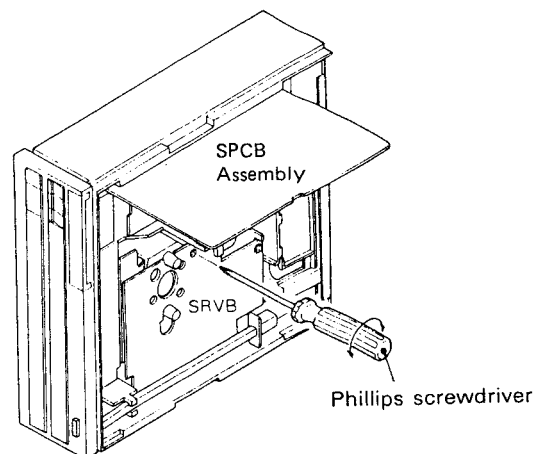

Fig. 10-2-11 Tilt adjustment of tilt sensor Assembly
- ① Search out frame #104.
- ② Insert a Phillips screwdriver into the tilt adjustment hole of the SRVB Assembly as in Fig. 10-2-11.
- ③ Adjust the tilt adjustment screw of the Tilt-sensor Assembly to obtain $0 \pm 50\text{mV}$ at the foot of R147 of the SRVB Assembly. At the same time, be sure not to allow external light to reach the sensor.